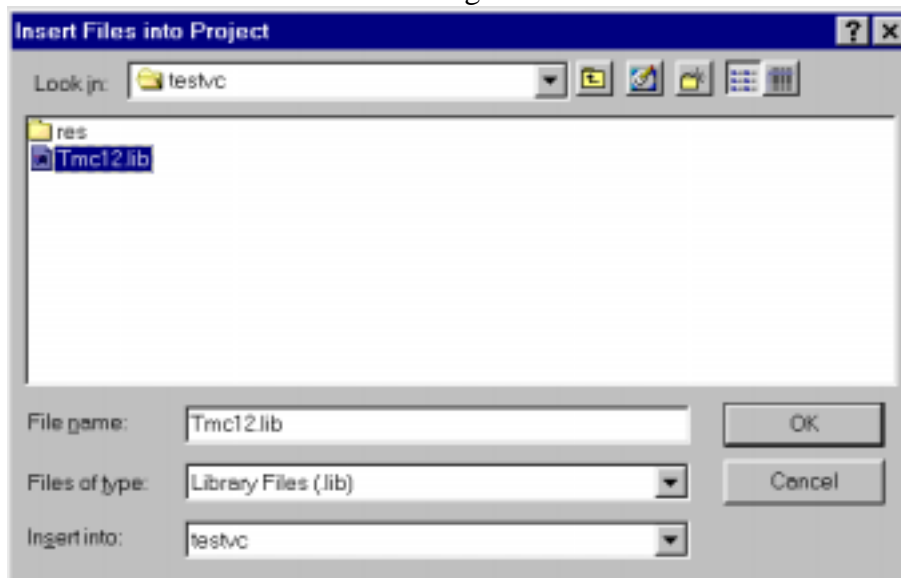

Figure 2-2-4. Change the field “Files of type:” to “Library Files (.lib)”.
Refer to Figure 2-2-4.
For example, “TMC12.lib”. Refer to Figure 2-2-4.
Step 10: Click the button “OK”. Refer to Figure 2-2-4.